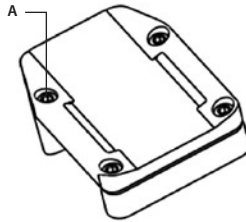

FIGURE 4-1. ADVANCED WIRELESS REMOTE CONTROL BATTERY INSTALLATION
1. Using a screwdriver, unscrew the four screws (A, Figure 4-1) that secure the cover to the bottom of